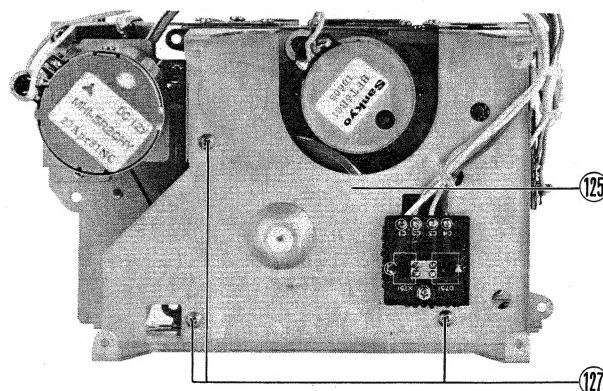

Fig. 12
G. Flywheel holder (125) (Fig. 12)